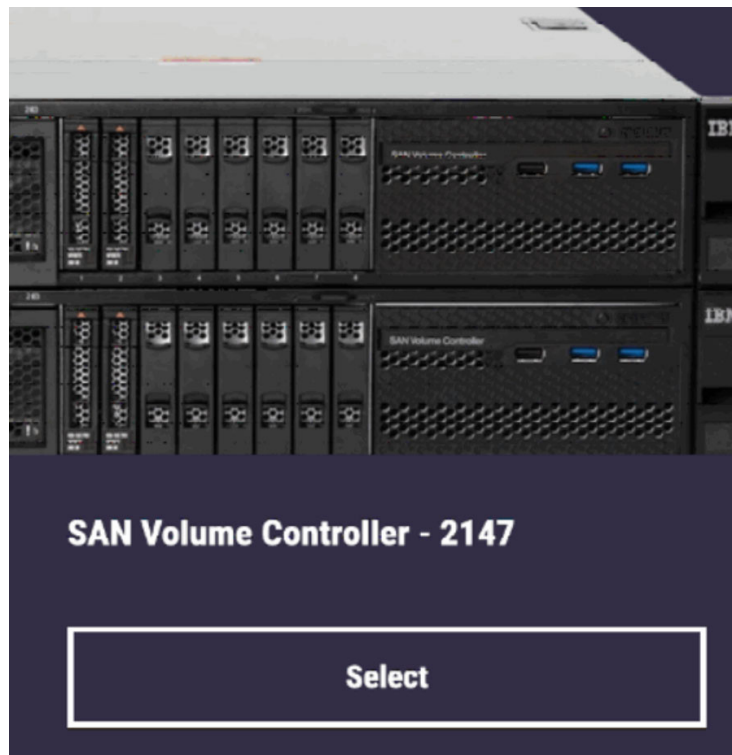

Figure 10-16 RCL Product type page
3. Select the Product type for RCL. Choose your device Model and Type, and click **Select**. The example in Figure 10-16 is an SVC - 2147.